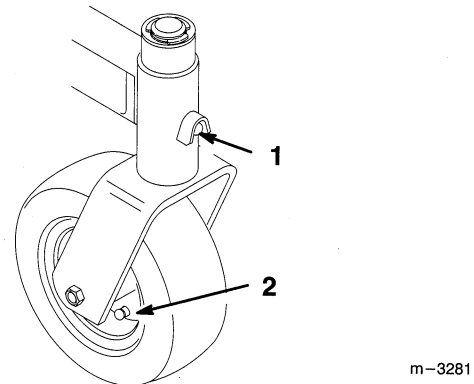

Figure 32
3. Grease the fittings on the carrier frame mounting tubes and castor wheels (Fig. 32).